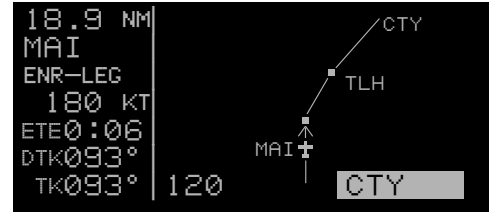

Figure 4-66
8. When you are 20 NM West of **MAI**, you decide to proceed direct to Cross City VOR (**CTY**). To do this from the Super NAV 5 page, you pull out the right inner knob and scan through the active flight plan until **CTY** is displayed (figure 4-66). Next, you press **ENT** to view the waypoint page for **CTY**, and then press **ENT** to navigate directly to **CTY** (figure 4-67).